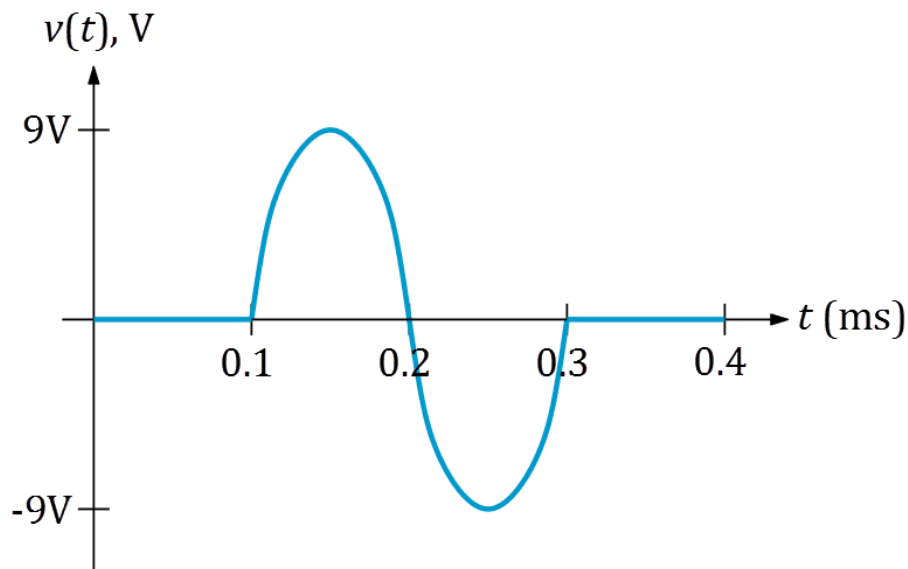

Figure 5.2: Voltage waveform for Problem 5.2
The voltage $v(t)$ across a 33-mH inductor is given by the sinusoidal pulse waveform shown in Figure 5.2.
- Two AC voltage sources (AC_VOLTAGE) connected in series and also connected across the inductor-resistor combination. Flip the orientation of one of the sources so that the series combination forms the *difference* of the two voltages. Set one voltage for a delay of 0.1 ms and the other for a delay of 0.3 ms; in this way only a single cycle of the sinusoid appears across the pair of sources as in the waveform of Figure 5.2 on the preceding page.
Create the inductor voltage waveform of Figure 5.2 on page 62 with the NI ELVISmx Arbitrary Waveform Generator; use 200 kS/s as the sampling rate.
2. Use the oscilloscope display cursors to measure the time at which the inductor current reaches its maximum value; use the same time reference as Figure 5.2 on page 62.